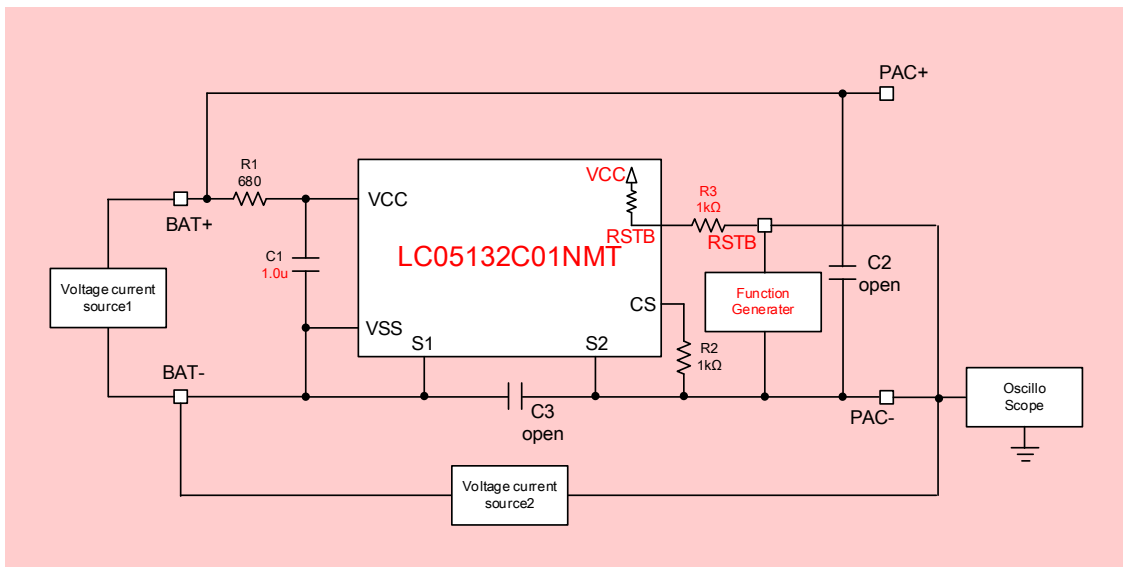

Figure4. LC05132C01NMTGEVB Recommended Test Set Up for Reset detection/release time
1. Connect **LC05132C01NMTGEVB** like upper Figure4.